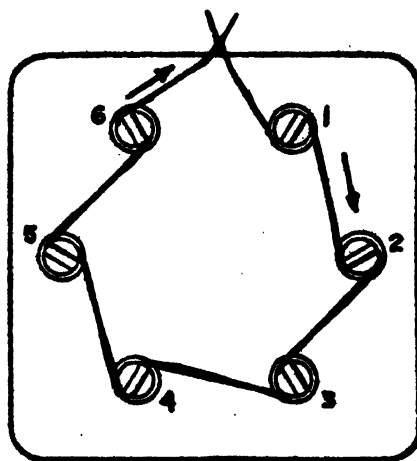

FIGURE 17
g. Repeat steps 3c through 3f for the remaining screws. See figure 17.